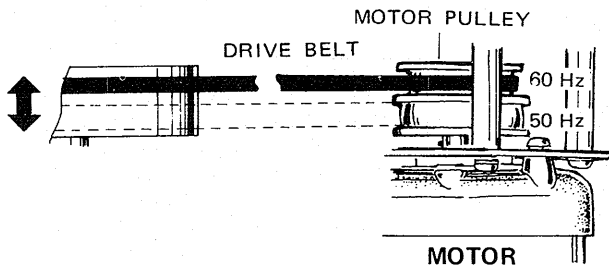

Fig. 29
9.1 SELECTION OF LINE FREQUENCY (Figs. 29, 30)